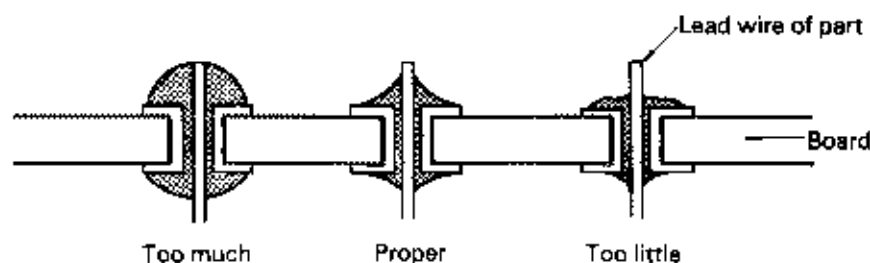

Fig. 6-1
(1) Soldering the through holes
- (a) Solder each lead wire as shown in the center of Fig. 6-1. (The slope of the placed solder is 30° - 45°.)